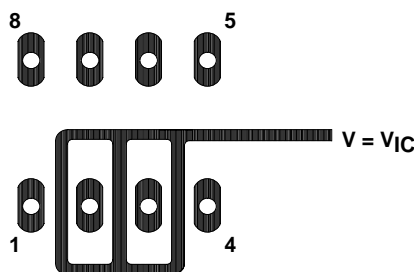
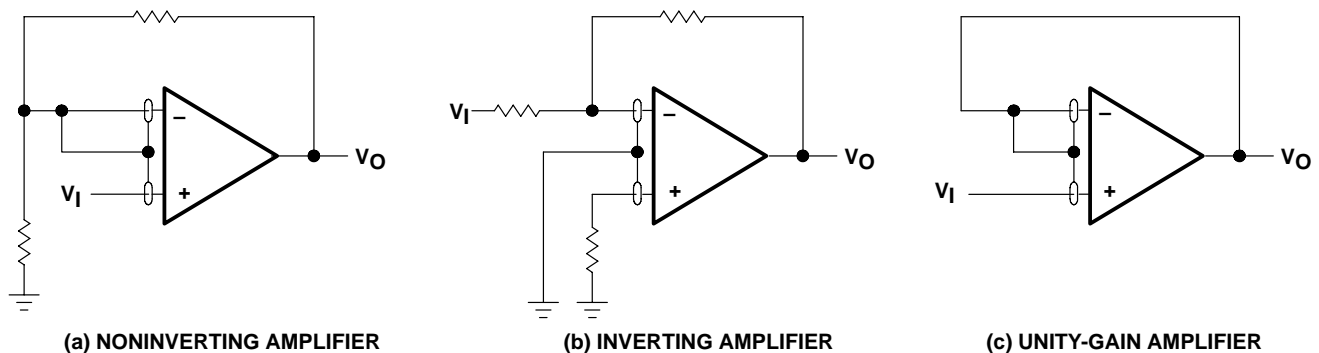

Figure 101. Isolation Metal Around Device inputs (JG and P packages)
Figure 107. Guard-Ring Schemes
1. Isolate the device from other potential leakage sources. Use a grounded shield around and between the device inputs (see Figure 101). Leakages that would otherwise flow to the inputs are shunted away.
Because of the extremely high input impedance and resulting low bias current requirements, the TLC271 is well suited for low-level signal processing; however, leakage currents on printed circuit boards and sockets can easily exceed bias current requirements and cause a degradation in device performance. It is good practice to include guard rings around inputs (similar to those of Figure 101 in the Parameter Measurement Information section). These guards should be driven from a low-impedance source at the same voltage level as the common-mode input (see Figure 107).